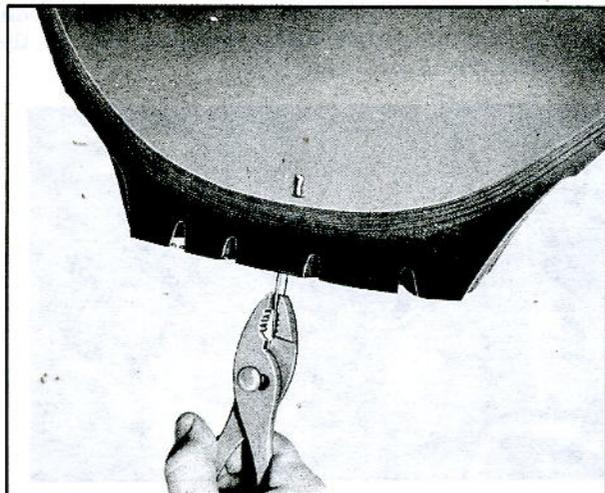

Fig. 12—Installing Filler Rubber in Hole
- b. Remove detachable handle from awl needle. Cut 1/8" by 1" strip of Filler Rubber, remove protective cover and insert into hole of awl needle with end of rubber strip extending beyond the needle (See Figure 12).